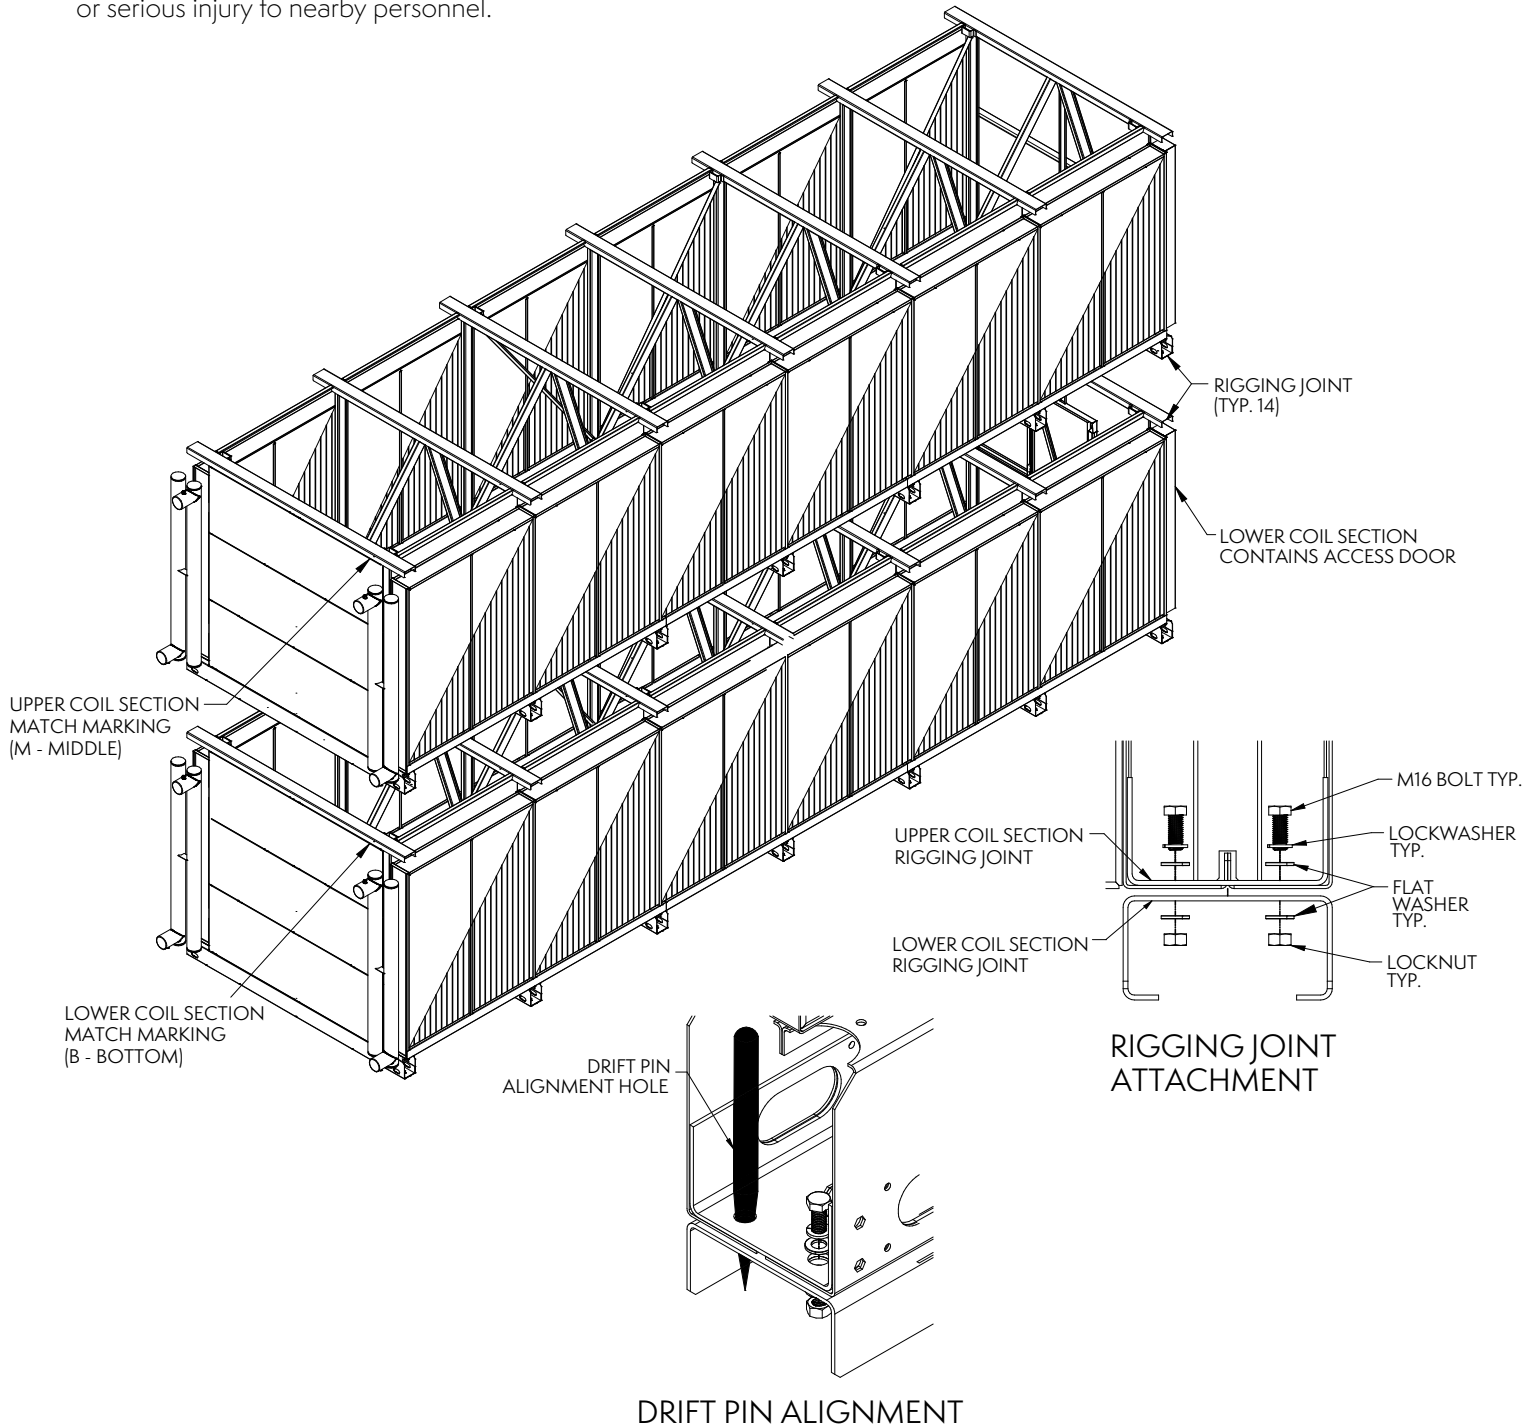

Figure 4 – Joining Upper Coil Section and Lower Coil Section
1. Carefully lower upper coil section onto lower coil section using drift pins in the four corners and as needed to align rigging holes in the mating double break flanges. Fasten upper coil section to lower coil section rigging seam as shown in Figure 4. Units are provided with match markings on each section, as shown in Appendix A. Rigging hardware is provided.